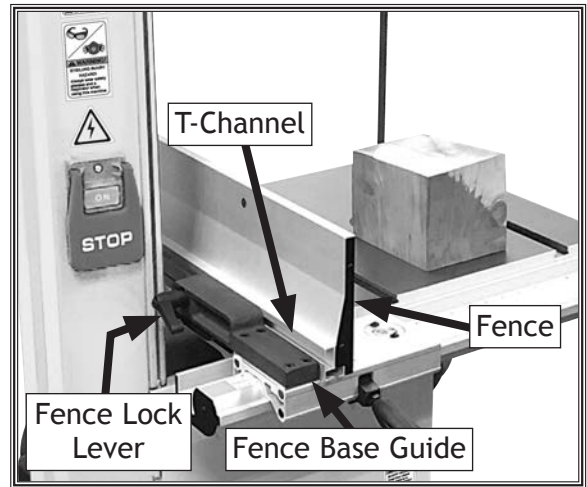

Figure 29. Installing fence in vertical position.
13. Mount fence to fence base guide, sliding T-channel around fence base guide plate (see Figure 29).
- For *normal* workpieces or resawing, mount fence in vertical position, as shown in Figure 29, then rotate fence base lock lever to secure.